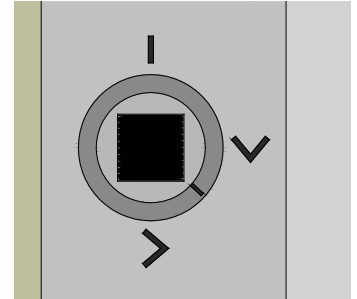

figure 23
- 3) While supporting the weight of the chuck, use the chuck key to turn one of the cams until the cam line is between the two "V" marks on the spindle as shown in (fig. 23).